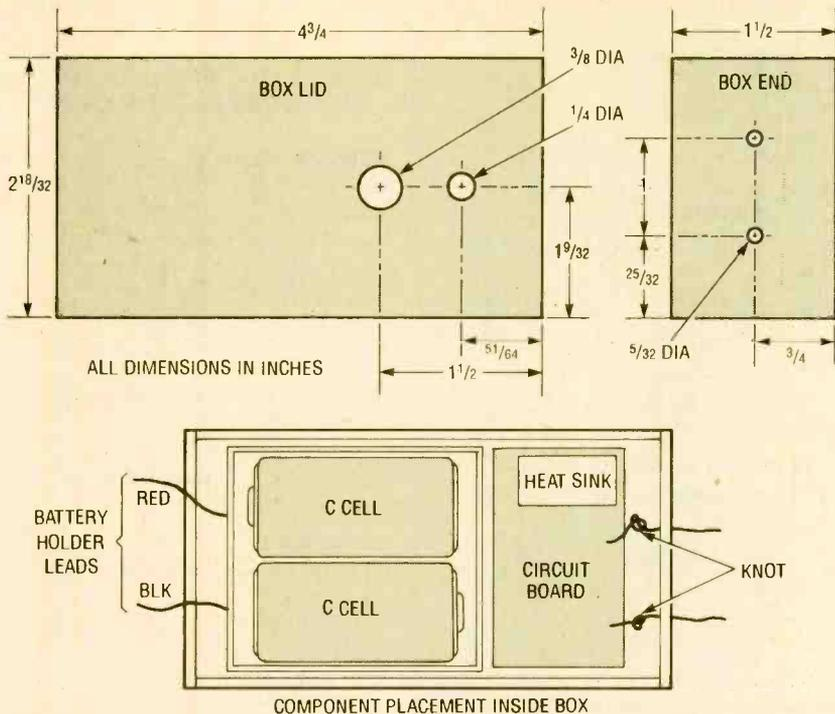

Fig. 2. If you drill your enclosure to these specifications you'll make the task of final assembly a lot easier. Remember to use a holder for the LED.
**Construction.** As illustrated in Fig. 2, the unit's circuitry is housed in a project box (the author's was plastic) that you can purchase from almost any electronic-parts supply store. Using the figure as a guide, first glue a two "C"-cell holder to the inside bottom of the box, with the holder pushed to one end. Drill two 5/32-inch holes
**Construction.** The prototype of the Tel-Tale was assembled on a small printed-circuit board, measuring about 1 $\frac{1}{8}$  inches square. A template of the author's PC pattern is shown in Fig. 2. Note that in that diagram, only one set of IC pads (near the center of the board) are shown; the reason for that will become apparent in a moment.
Fig. 2. The prototype of the Tel-Tale was assembled on a small printed-circuit board, measuring about 1 5/8 inches square, a full-size template of which is shown here.
If you are simply replacing an older existing phone with one of the newer modular units, all that you'll have to do is to replace the quad-terminal block's cover with a modular one (see Fig. 2). The cover, which is available from numerous local or mail-order
Fig. 2. To convert older installations to modular use, all you have to do is to replace the quad-terminal block's cover with a modular one, which has four color-coded wire leads that connect to the existing terminal block.